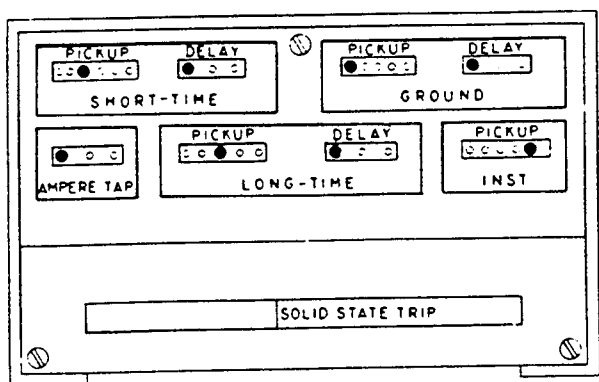

Fig. 12 — Solid State Overcurrent Trip Device
1. Turn adjusting screw (1) out as far as possible so that the circuit breaker will not trip when the magnetic latch trips.
2. Remove the terminal block cover on the solid state assembly by removing two lower screws (Fig. 12). Disconnect two wires at terminals 15 and 16.
4. While lightly pushing at point "A" so that the lever (2) does not move through its full stroke and trip the circuit breaker, momentarily apply the voltage (3 V) from two dry cell batteries, size "D", to the two wires (+ to wire 16, - to wire 15) that were disconnected in operation 2. The magnetic latch should trip.
5. Gradually release the hold on lever (2).
6. While holding the lever (2) in the tripped position, turn in on screw (1) until the circuit breaker just trips, then turn in one additional turn.
OVERCURRENT TRIP DEVICE SETTINGS (See Figure 12)**